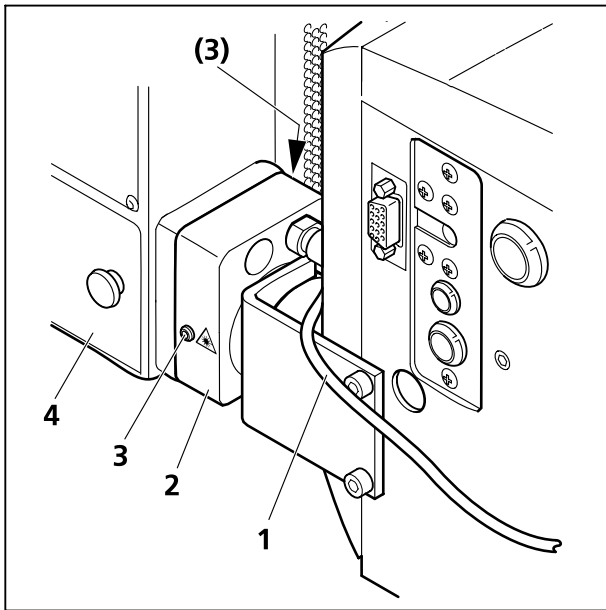

Fig. 22 Port connection between LSM 710 / LSM 780 and LSM *BiG*
⚠ Do not remove the laser safety cable (Fig. 22/1) from the LSM 710 / LSM 780 system. This might result in failure of laser safety and a non operating system.
- Loosen the two fastening screws (Fig. 22/3) of the LSM *BiG* port (Fig. 22/2).
- Slowly pull the LSM *BiG* (Fig. 22/4) away from the port.